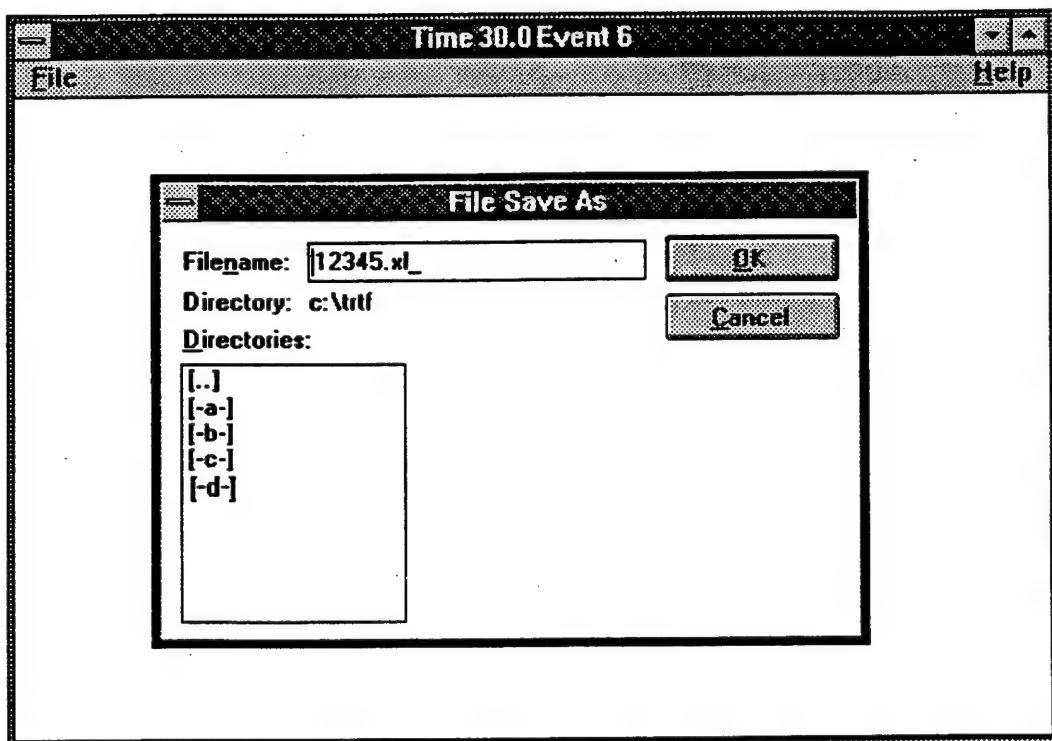

Figure 3-7. File Save.
6. If event and channel information has been correctly entered and verified, position cursor on Yes and execute single click. All test events will automatically start. At end of test sequence, Figure 3-7 will appear.